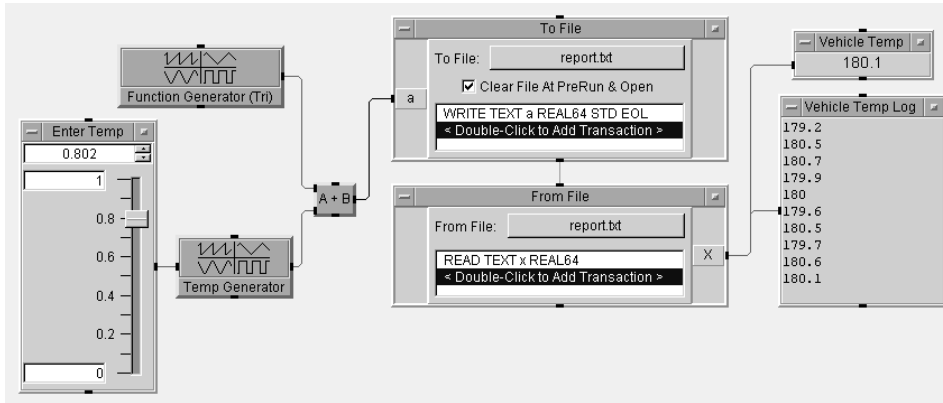

Figure 2.10. Logging vehicle temperature results
24. If you wish to log a series of values as in Figure 2.10: